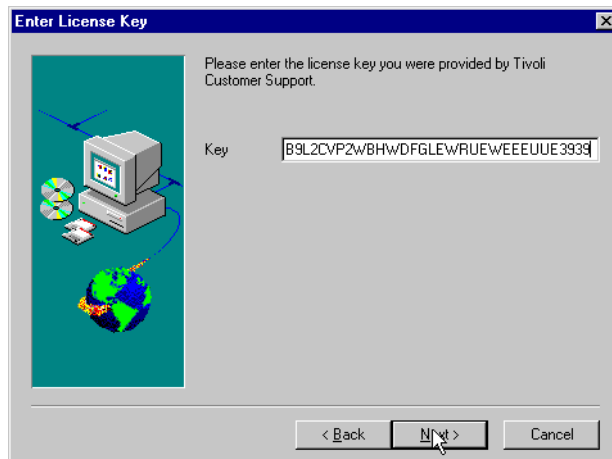

Figure 21. Enter License Key
11. In the window, shown in Figure 21 on page 47, enter the TME 10 License Key. If you do not have it already, you may request it. Along with your TME 10 software, you should have received a TME 10 License Key Request Form. Complete this form and return it to your customer support provider.